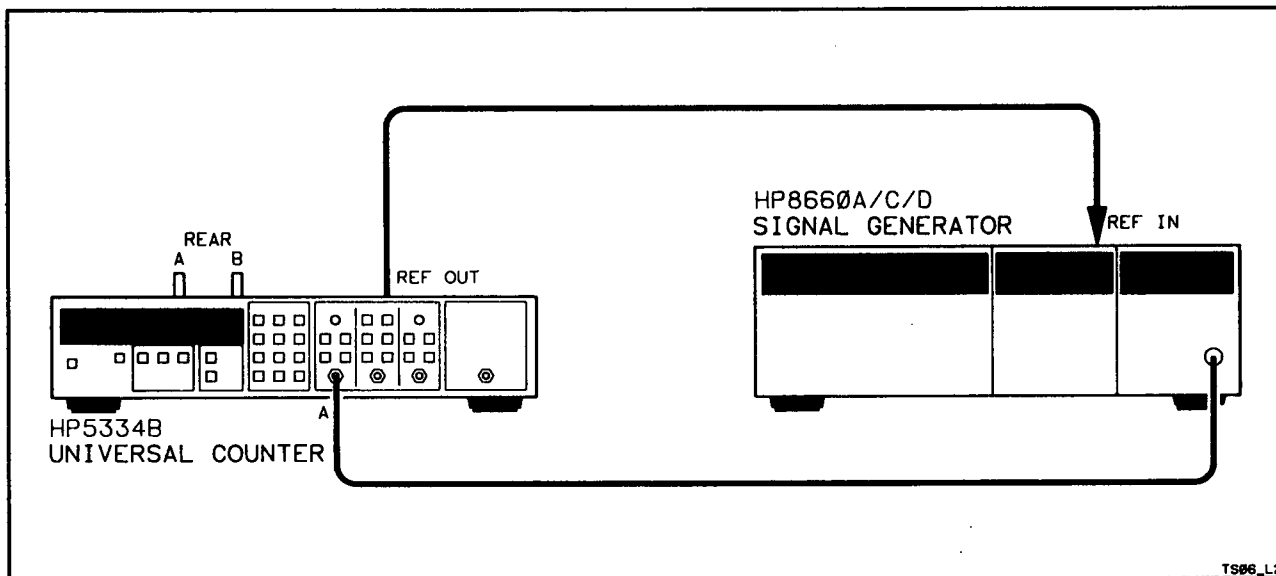

Figure 4-6. Channel A Frequency and Sensitivity Setup for Option 060
4. Connect the signal generator to the HP 5334B front panel Input A as shown in Figure 4-6.